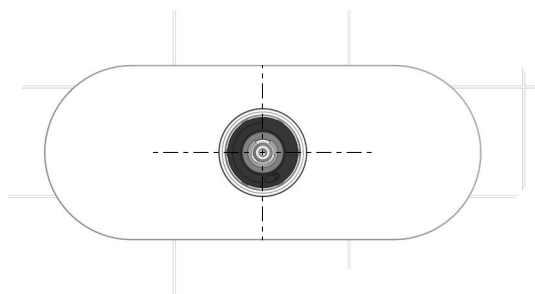

FIG 1
**ATTENZIONE:** POSIZIONARE IN MODO CORRETTO L'ANELLO DI BLOCCO DI 38 °C (A) IN MODO DA AVERE UNA CORRETTA REGOLAZIONE DELLA TEMPERATURA (VEDI FIG 1)
**ATTENTION:** PLACE THE 38 °C (A) IN THE RIGHT POSITION AS SHOWN, IN ORDER TO HAVE A CORRECT REGULATION OF TEMPERATURE (SEE FIG 1)